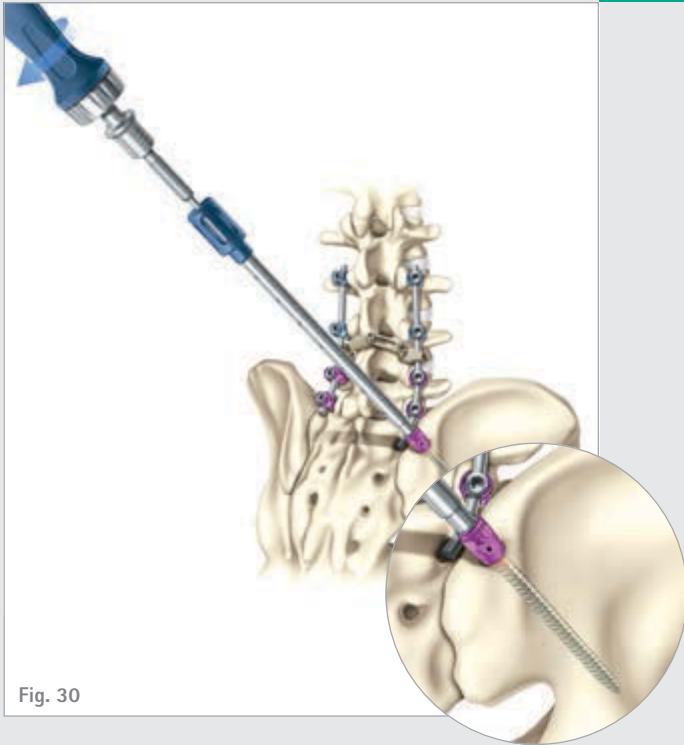

Fig. 30
- Attach desired handle to polyaxial Screw Driver (FW277R) and thread the screw into the ilium. (Fig. 30)